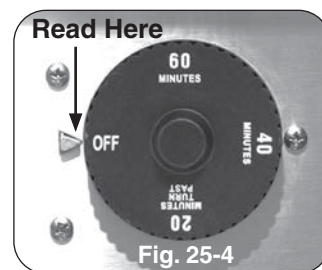

Fig. 25-4
**Important:** When using the timer for periods of less than twenty minutes, you must first set the dial to twenty minutes (to activate), then return (counter-clockwise) to the desired amount of time. This will ensure proper timer operation. See Fig. 25-4.